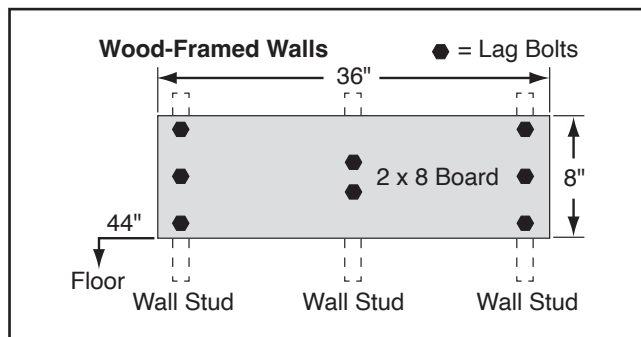

Figure 7. Wall mounting board layout.
1. Attach mounting board to wall approximately 44" from floor using (8) $\frac{3}{8}$ " x 5" lag bolts and (8) $\frac{3}{8}$ " flat washers (see **Figure 7**).